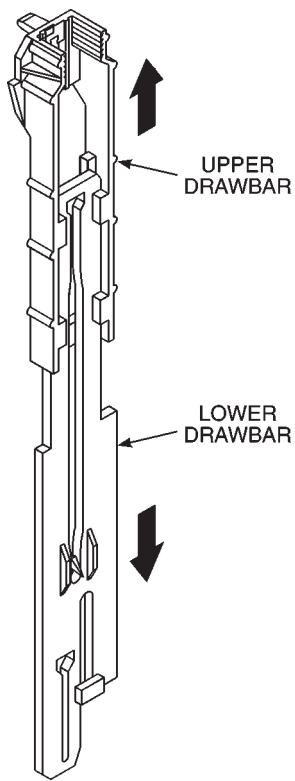

Fig. 1-28
3. Slide the drawbars apart. (Fig. 1-28)
10. Slide the upper and lower drawbars together. (Fig. 1-28)